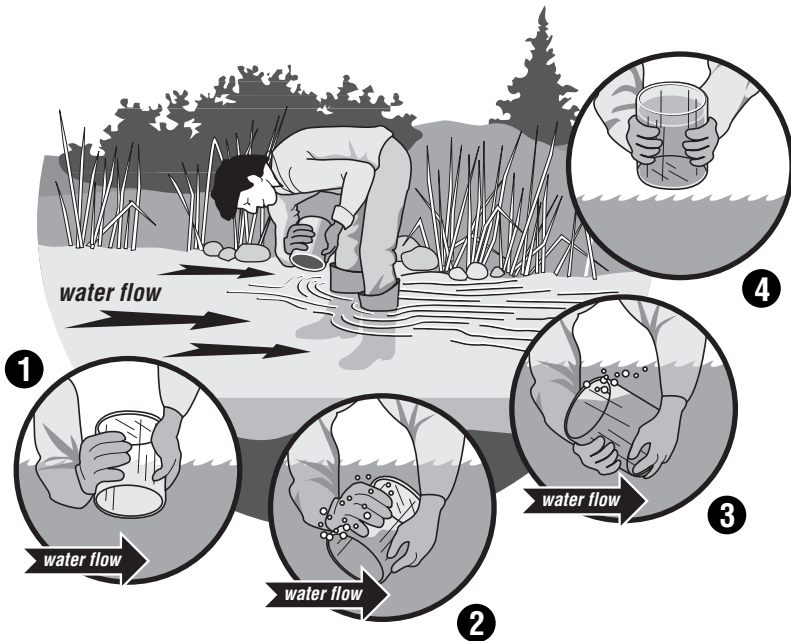

Figure 7-6. Taking a water sample. Turn the container into the current or tide and scoop in an upcurrent direction (redrawn from USEPA, 1997).
3. Wading: Try to disturb as little bottom sediment as possible and take care not to collect water that has sediment from bottom disturbance. Stand facing against the current or tide (if it can be detected). Collect the sample against the current, in front of you (Figure 7-6). You may also tape your bottle to an extension pole to sample from deeper water.
4. Hold the bottle near its base and plunge it (opening downward) below the water surface (Figure 7-6). If you are using an extension pole, remove the cap, turn the bottle upside down, and plunge it into the water, against the current or tide. Collect the water sample 8-12 inches below the water surface whenever possible.